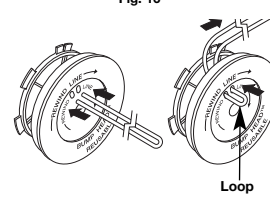

Fig. 18
6. Take approximately 20 feet (6 m) of new trimming line, loop it into two equal lengths. Insert each end of the line through one of the two holes in the inner reel (Fig. 18). Pull the line through the inner reel so that the loop is as small as possible.